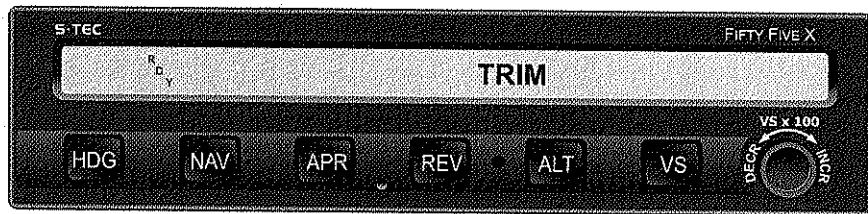

Fig. 2-15. AP Display, Manual Electric Trim in Progress (Pre-Flight)
52. Press/Hold forward on both segments of Manual Electric Trim Switch.	Elevator Trim Wheel runs nose down at full speed, and TRIM annunciation appears flashing as shown in Fig. 2-15.
56. Press/Hold aft on both segments of Manual Electric Trim Switch.	Elevator Trim Wheel runs nose up at full speed, and TRIM annunciation appears flashing as shown in Fig. 2-15.